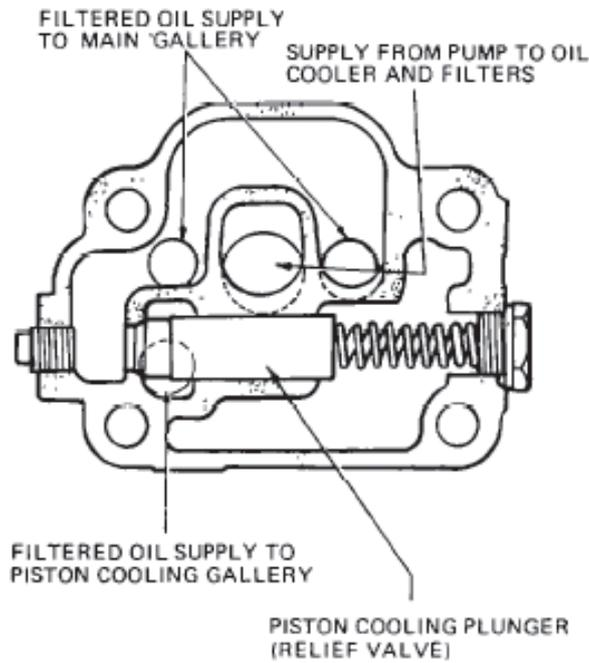
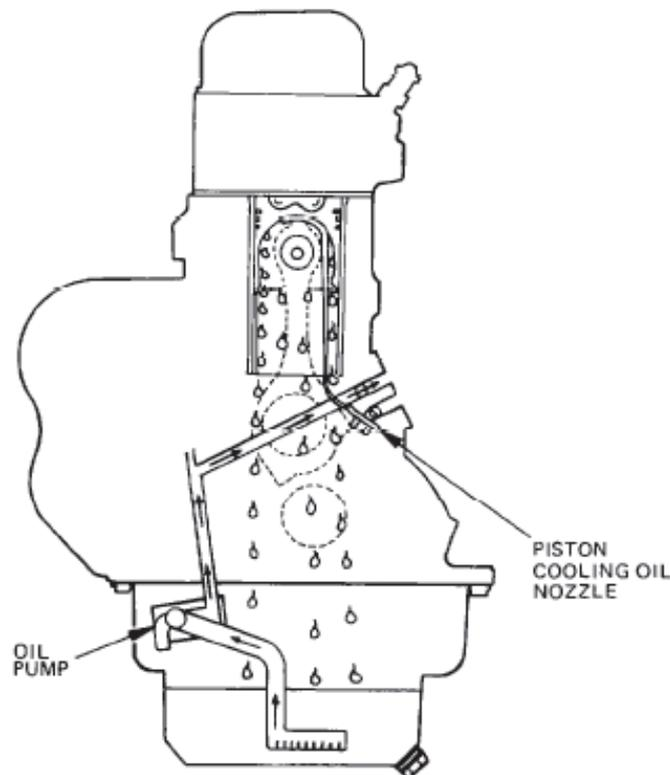

Figure 4 Oil Pressure Relief Valve
Figure 5 Front Schematic View – Oil Cooling System
22. The oil pump is mounted in the base of the crankcase and driven by a gear on the auxiliary shaft; it draws oil from the oil pan and pumps it to the pressure relief valve housing (Figure 4). The housing is a machined casting mounted on the left-hand side of the engine containing the pressure relief valve. This valve controls the oil for piston cooling. At engine speeds above idle, the piston cooling plunger is moved permitting oil from the oil pump to be directed into the piston cooling gallery (Figure 5).